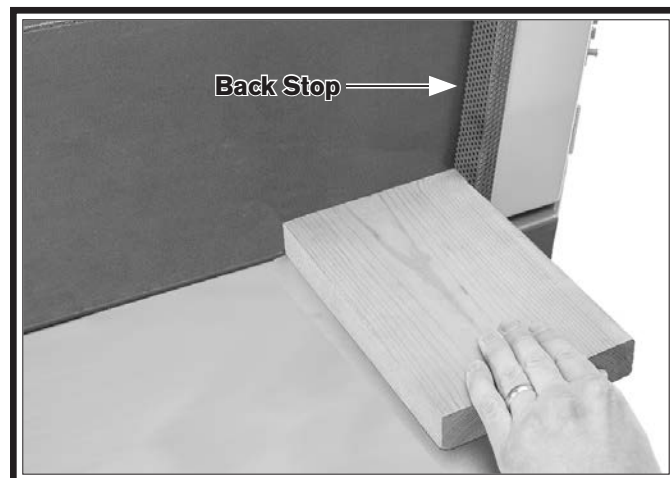

Figure 45. Workpiece supported by back stop.
4. Use back stop to support workpieces, as shown in **Figure 45**.